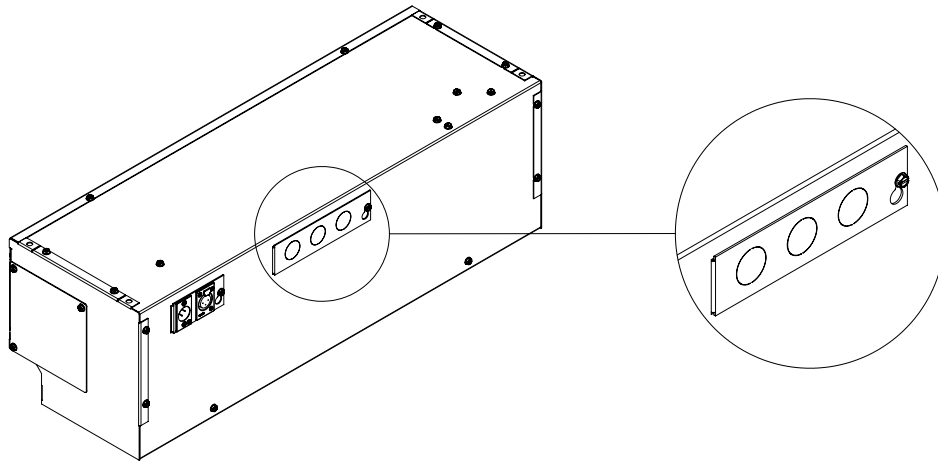

Figure 1
1. Prepare the line voltage wiring to the fixtures. You may want to partially install the power wiring before the fixture is placed in the T-track if access is difficult. Ensure that the supply voltage matches that required by the driver. To install the power feed, loosen the screw holding the power entry plate and remove the plate (Figure 1). Remove the knockouts as needed and install the correct type of power cabling and strain relief (not provided). Connect the wires from the feed using wire-nuts, observing the wire color coding, and re-install the knockout plate. Brightline fixtures intended for the North American market use black/white/green wires respectively for line/neutral/ground; fixtures shipped to other locations use brown/blue/green-yellow for line/neutral/ground. In most cases, it is useful to install sufficient slack in the power cable so that the fixture may be moved to an adjacent tile opening without having to extend the wiring.